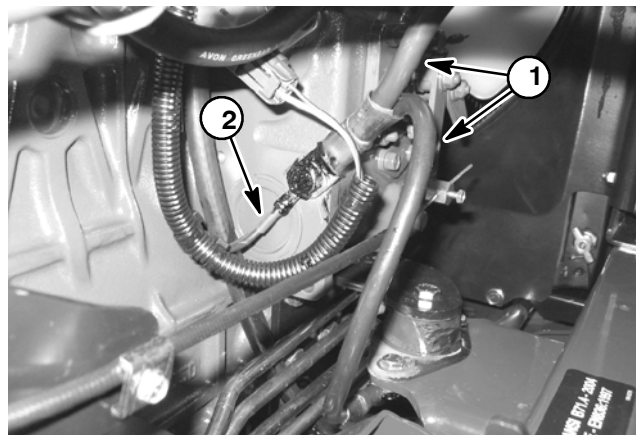

Figure 12
- F. Negative battery cable and harness ground from injector pump (Fig. 12).